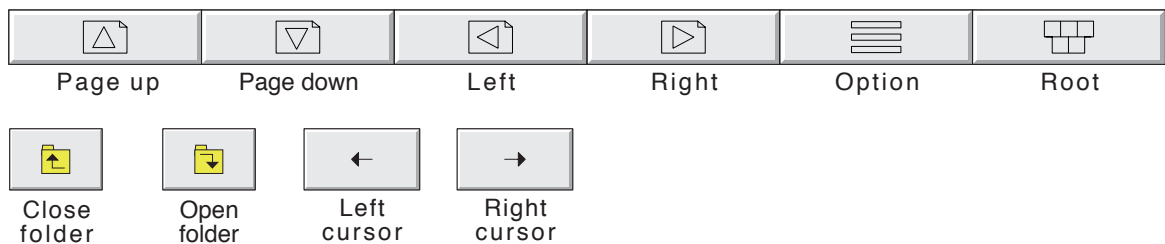

Figure 3.2 Navigation keys
Above the lower edge of the window are six keys (figure 3.2 below) which allow the user to perform various context-related tasks such as to change the display mode (section 3.4), to access configuration, to archive data, to select groups etc. In addition to this, left and right arrow keys or open/close folder keys appear when relevant.
*Note: The overall size and aspect ratio of the bottom-of-window keys are determined by the size and shape of the screen window being used, and will therefore often be different from those shown in figure 3.2.*